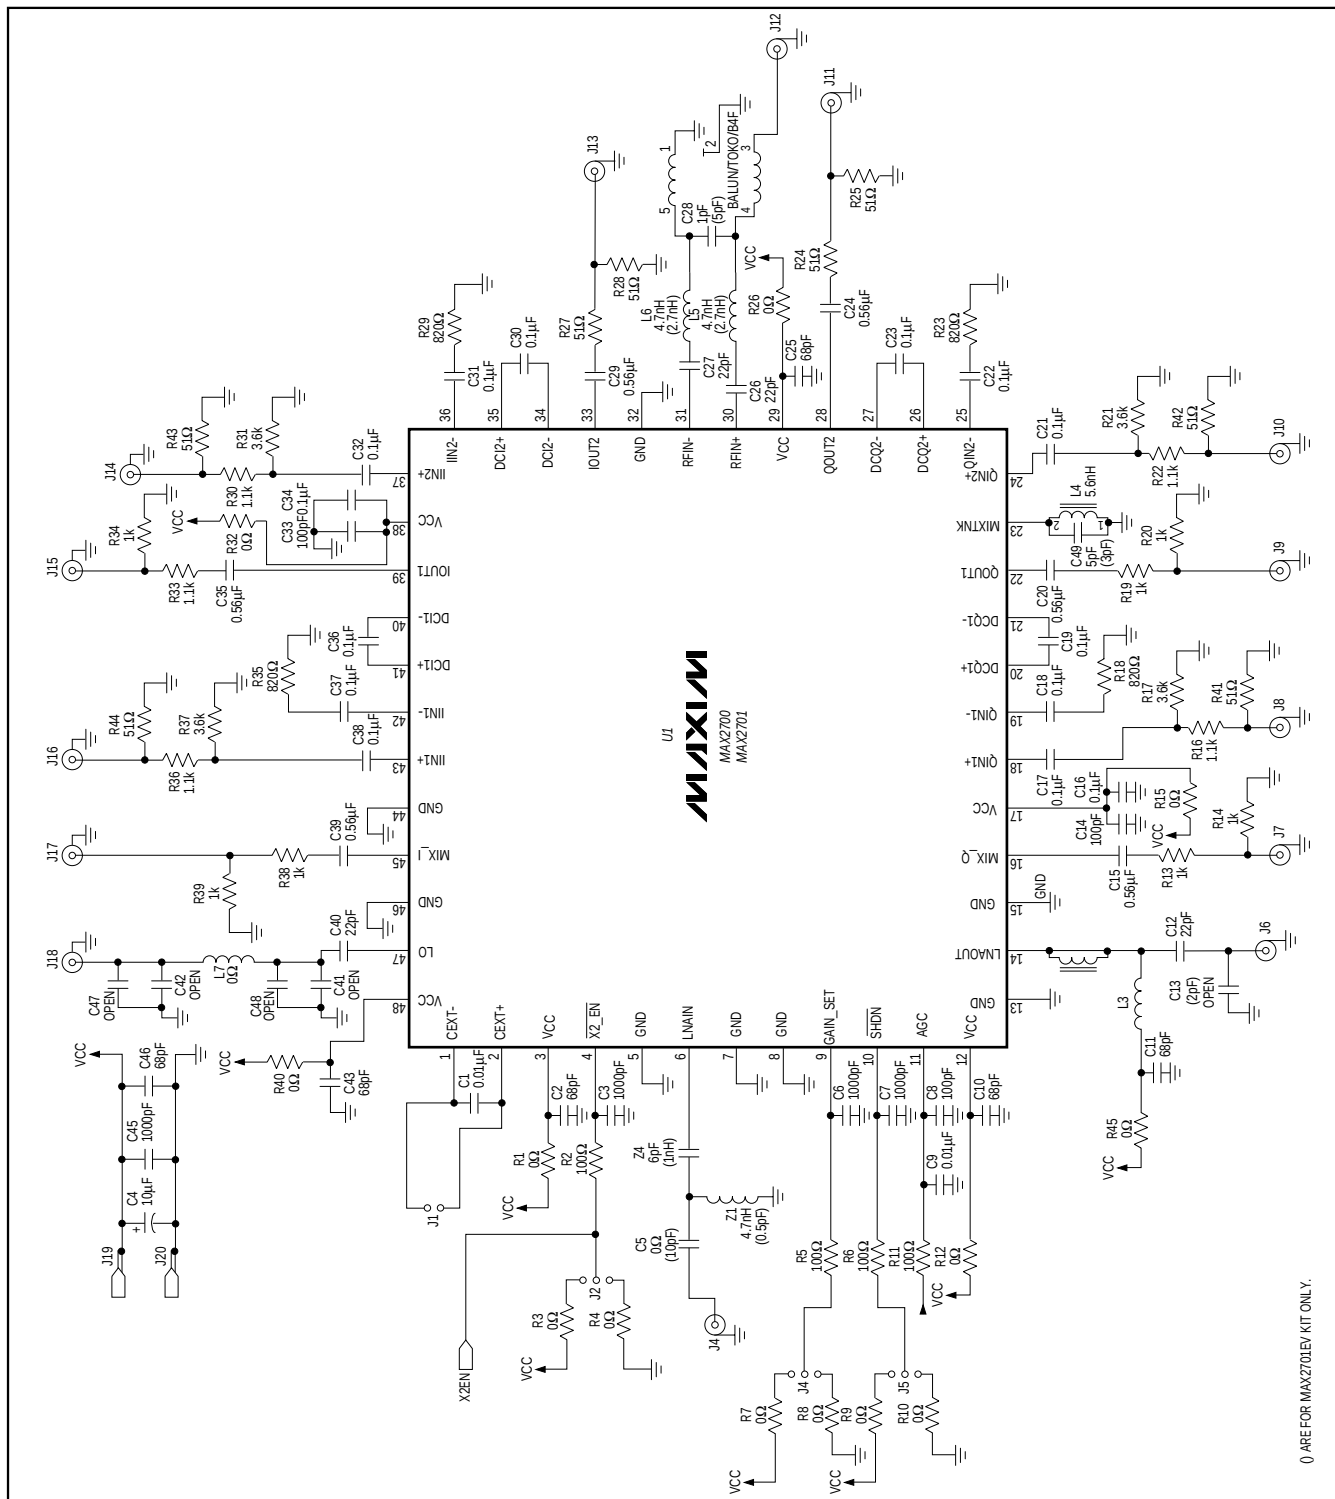

Figure 3. MAX2700/MAX2701 EV kit Schematic
(MAX2700/MAX2701 EV kit (Figure 3), $V_{CC} = +3.0V$, $T_A = +25^\circ C$, $\overline{SHDN} = GAIN_SET = V_{CC}$, $\overline{X2_EN} = GND$, CEXT+ connected to CEXT-, $P_{LO} = -13dBm$, $F_{LO} = 980MHz$ (MAX2700) and $1200MHz$ (MAX2701), $P_{LNAIN} = -30dBm$, $P_{RFIN} = -25dBm$, LNAIN and RFIN (single-ended input to balun) driven from 50Ω source, LNAOUT terminated into load; MIX_I, MIX_Q AC-coupled to $2k\Omega$ load; IIN1+, QIN1+, IIN2+, QIN2+ driven from $1.1k\Omega$ AC-coupled source; IOUT1, QOUT1 AC-coupled to $2k\Omega$; IOUT2, QOUT2 AC-coupled to 100Ω ; input to VGAs, $20mVp-p$ at $1MHz$ tone, set $V_{AGC} = 1.25V$, unless otherwise noted.)
(MAX2700/MAX2701 EV kit (Figure 3), $V_{CC} = +3.0V$, $T_A = +25^\circ C$, $\overline{SHDN} = GAIN_SET = V_{CC}$, $\overline{X2_EN} = GND$, CEXT+ connected to CEXT-, $P_{LO} = -13dBm$, $F_{LO} = 980MHz$ (MAX2700) and 1200MHz (MAX2701), $P_{LNAIN} = -30dBm$, $P_{RFIN} = -25dBm$, LNAIN and RFIN (single-ended input to balun) driven from 50 Ω source, LNAOUT terminated into load; MIX_I, MIX_Q AC-coupled to 2k Ω load; IIN1+, QIN1+, IIN2+, QIN2+ driven from 1.1k Ω AC-coupled source; IOUT1, QOUT1 AC-coupled to 2k Ω ; IOUT2, QOUT2 AC-coupled to 100 Ω ; input to VGAs, 20mVp-p at 1MHz tone, set $V_{AGC} = 1.25V$, unless otherwise noted.)
*C19, C23, C30, C36 in the EV kit schematic in Figure 3 represent DC offset capacitors.